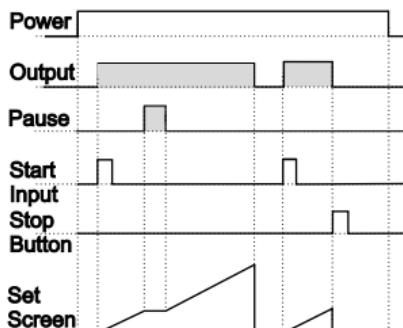

Figure 4.3
4.2.1 If Upcount `dEct` =0 and `outF` is `o-n` the control diagram is shown in Figure 4.3